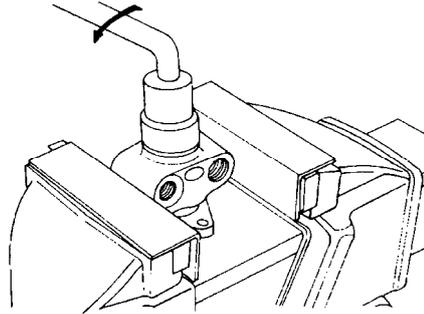

Figure 128 Removing the Plug
- d. Clamp the pump in the vice so that the plug faces upwards and remove the plug (Figure 128). Remove and discard the gasket.